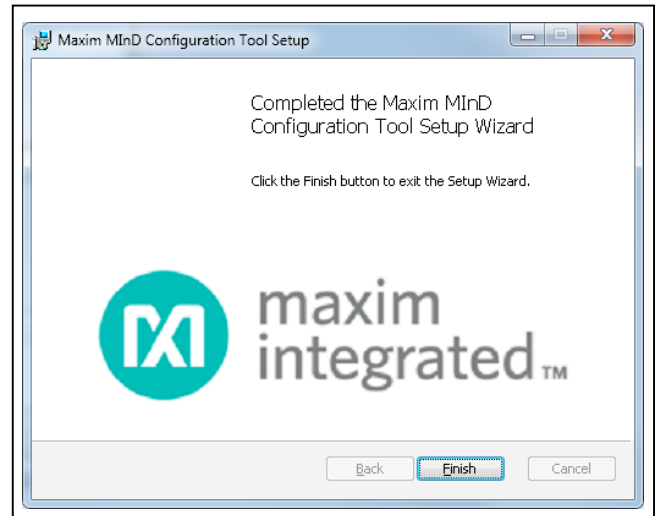

Figure 10. Software Install (Step 4)
- 8) At the end of the installation, click **Finish** to terminate the procedure (Figure 10).